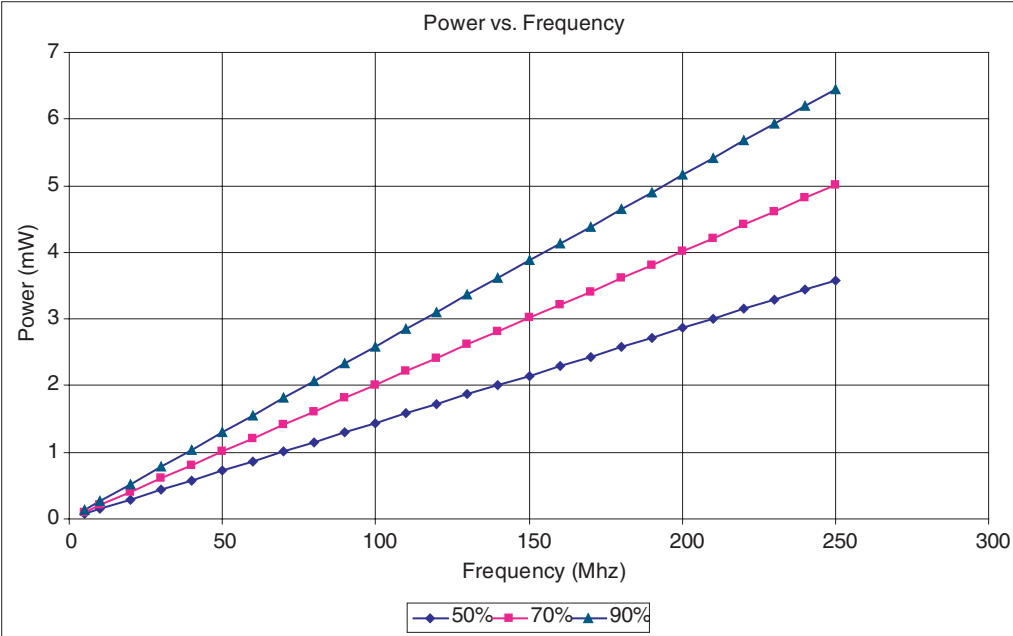

Figure 21: Power vs. Frequency (Absolute 50%, 70%, and 90% of the Available Resources on Chip)
**Figure 21** illustrates the theoretical worst-case scenarios for 50%, 70%, and 90% utilizations of the 6500-516 package. The resources of the device are divided exactly in half; meaning, for 50% utilization, exactly 50% of the I/Os, Logic Cells, RAM blocks, clock network, etc. are utilized. These situations may never occur in a real design, but they do provide a very rough quantitative measure of power consumption when talking in terms of 50% or 70% utilization of an Eclipse device.